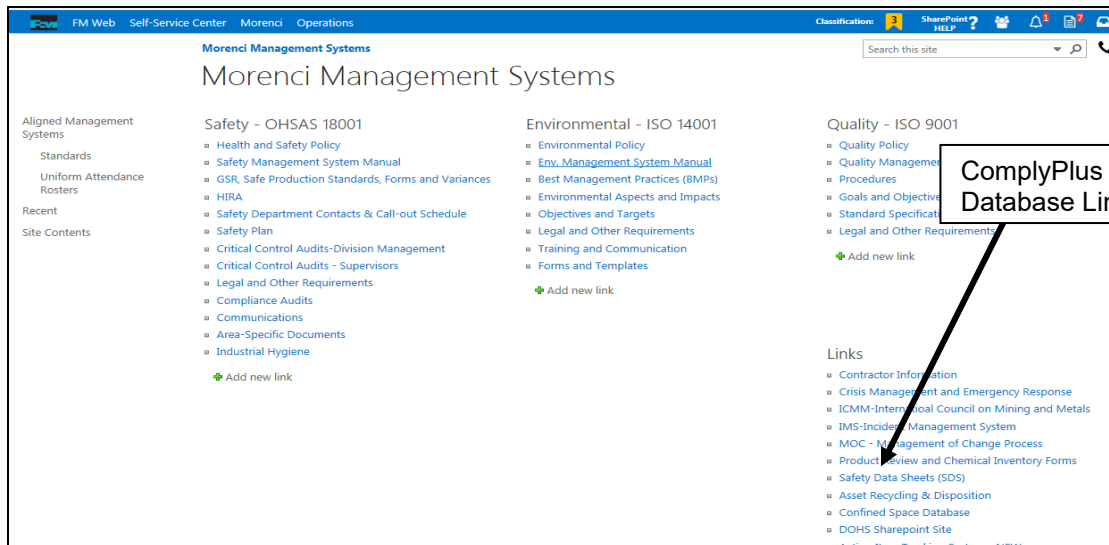

Figure 1
1. Once on the site, click on IHS Comply Plus (Dolphin) SDS Database link (<https://fcx.complyplus.com/default.asp>) located in the Links section at the right side of the page. (see Figure 1).